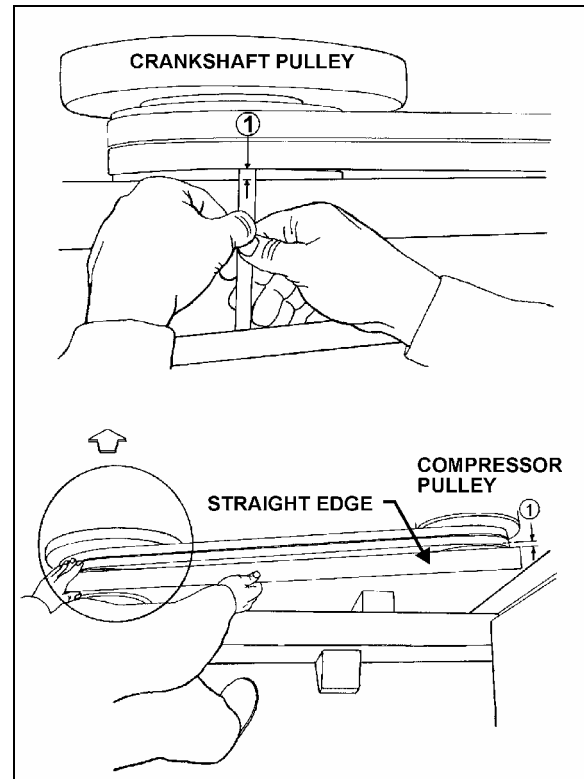
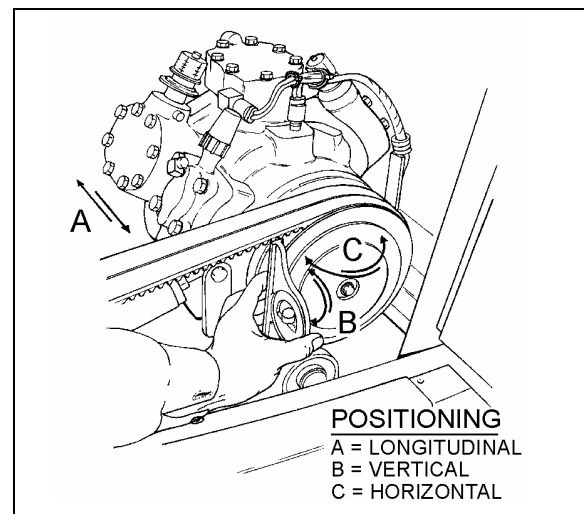

FIGURE 20: COMPRESSOR ALIGNMENT
FIGURE 21: COMPRESSOR ALIGNMENT
1. Rest an extremity of a straight edge of approximately 46 inches (117 cm) against the upper part of the outer face of crankshaft pulley, positioning the other end close to the compressor clutch pulley (Figure 20 & Figure 21).
2. Check the distance between each extremity of straight edge (1, Figure 20) and the first drive belt. If they are different, loosen the compressor support bolts and with a hammer, knock support to slide it in order to obtain the same distance; then tighten bolts.
2. Check the distance between each extremity of straight edge (1, Figure 20) and drive belt. If they are different, loosen the pillow block compressor bolts and with a hammer, knock compressor pillow block to slide it, in order to obtain the same distance; then tighten bolts.
Rest a short "angle and level indicator" on the outer side face of the crankshaft pulley, adjust the level indicator inclination at 0° and check if the compressor pulley is at same angle (Figure 20 & Figure 21). If it is not the same, shim under the appropriate pillow block in order to obtain the correct angle.